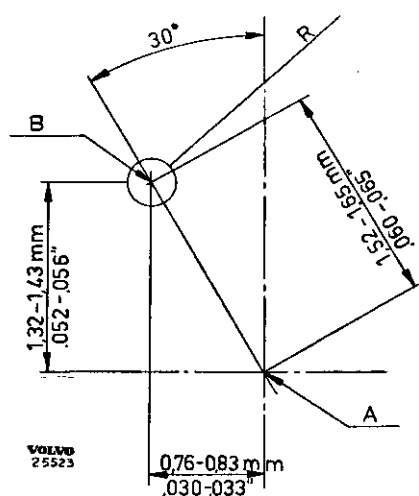

Fig. 33. Eccentricity for brake lining 661279.
After bonding, the linings should be ground to the correct measurements. Since the rear brake linings of the front wheels must be ground eccentrically, this requires a grinding machine which can be specially adjusted for this type of lining. There are different types of these machines, so that the grinding procedure varies accordingly. Fig. 33, shows how much the pivoting centre should be displaced in relation to the brake shoe centre when grinding the eccentric lining (part number 661279). For other linings, the pivoting centre coincides with the brake shoe centre. The grinding radius (R) = half the diameter of the brake drum less 0.1—0.2 mm (0.004—0.008"). Machines which are graduated for the drum diameter should thus be set to a value which is 0.2—0.4 mm (0.008—0.016") less than the diameter of the brake drum. Before the linings are ground they should be chamfered.